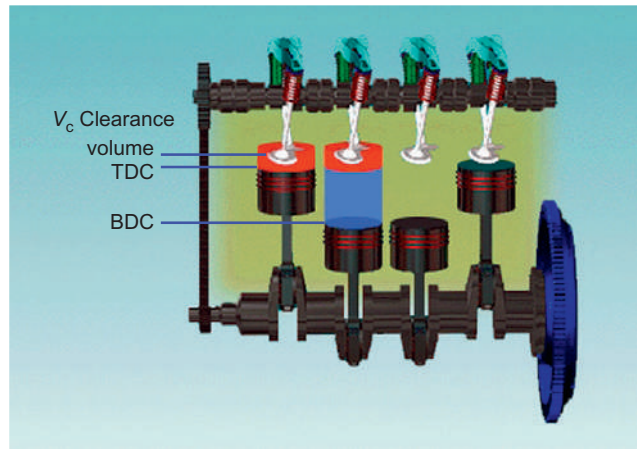

Figure 2.32 Clearance and swept volumes
- **Swept volume**—the volume of a cylinder bore between the TDC and BDC piston positions, excluding the volume above the piston at TDC (Fig. 2.32).
- **Clearance volume**—the volume above the piston at TDC. Note that it is the volume of the combustion chamber itself (Fig. 2.32).